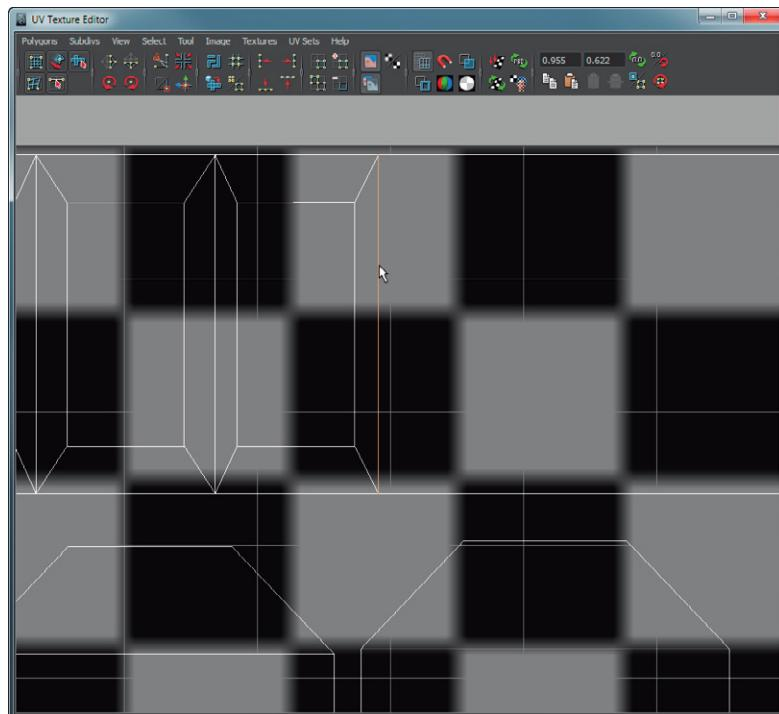

FIG 5.21 Cutting a UV edge to create two UV shells from one.
Step 21: Cut a wall away from the windowed wall shell. In the UV Texture Editor, select the edge shown in Fig. 5.21. Choose Polygons > Cut UV Edges. Select the bottom right UV of the far right wall and expand to shell – it will select only the one wall that is its own shell now.